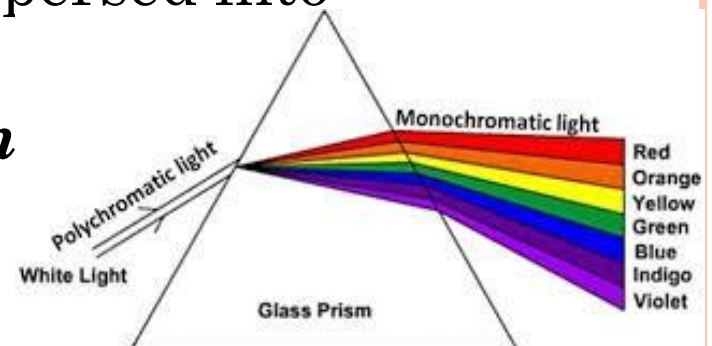

FIG.4.Glase prism dispersion
- When a narrow beam of light is allowed to pass through a prism/grating, it is dispersed into seven colors from red to violet and the band is called *Spectrum*. See figure 4.